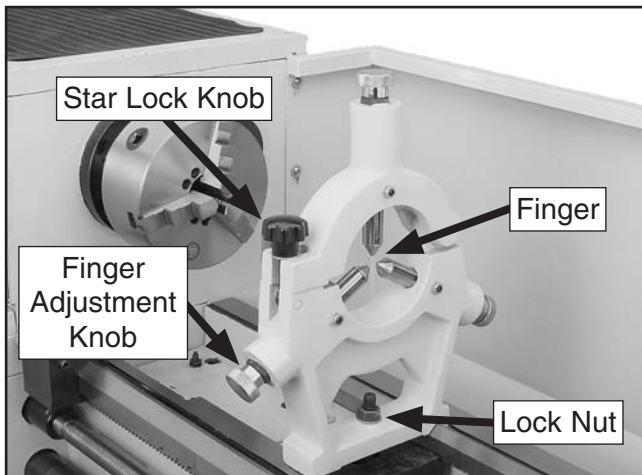

Figure 46. Steady rest adjustments.
3. Position the steady rest where required to properly support the workpiece, then tighten the lock nut at the base of the steady rest to secure it in place (see **Figure 46**).